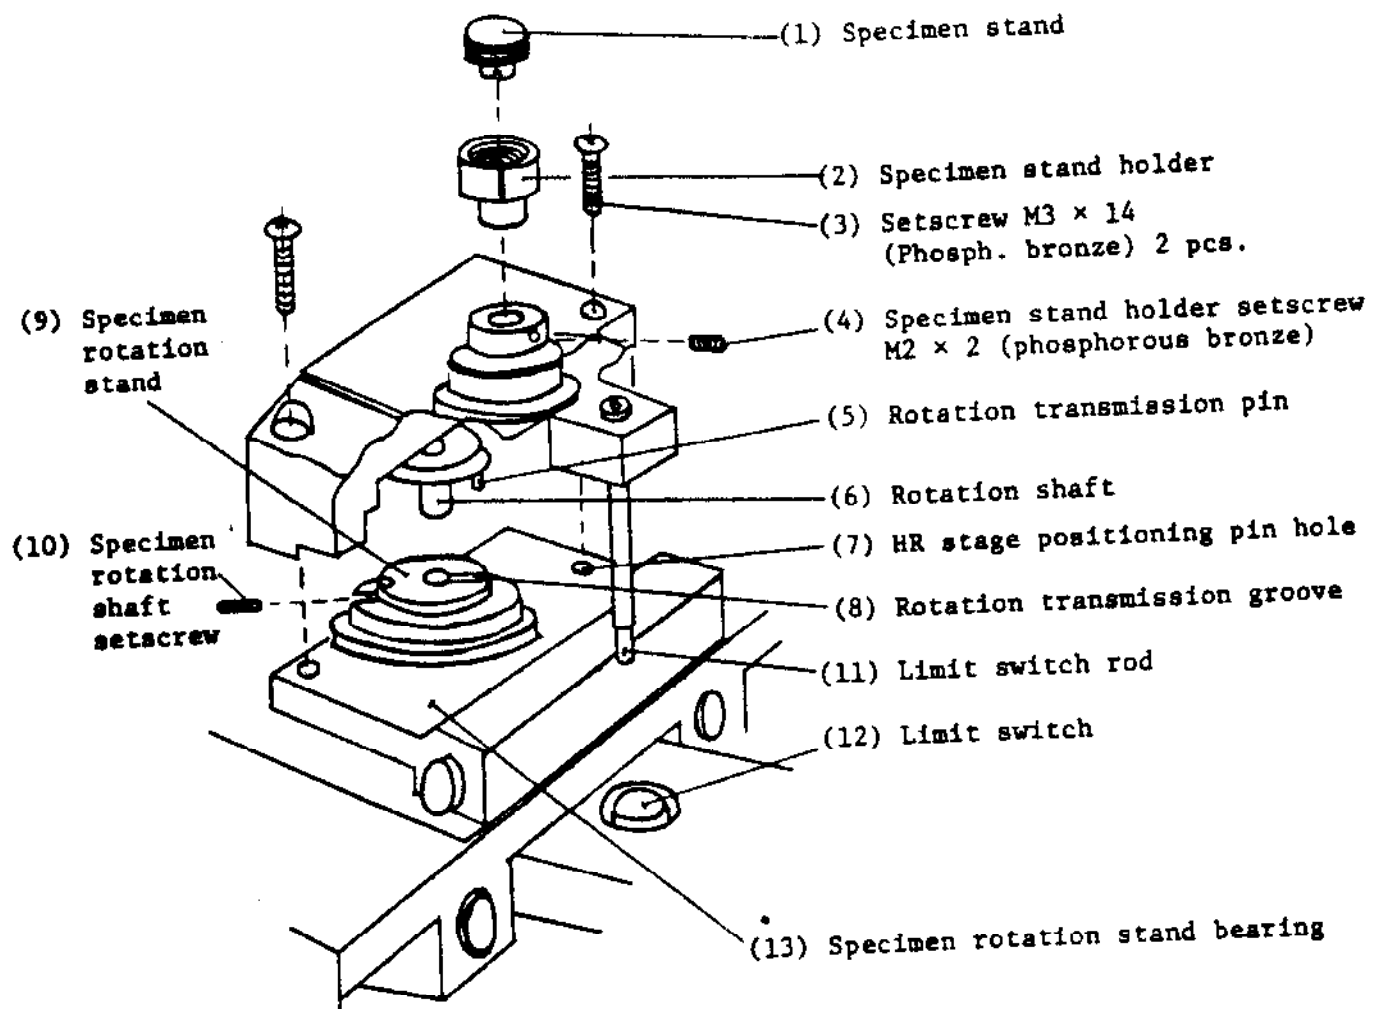

Fig. 1
- (2) Fix it to HR stage with one of the specimen stand holder screws (4) M2 x 2 (phosphorous bronze) as shown in Figure 1.
(REFER TO FIG. 1, FIG. 2, AND FIG. 3)